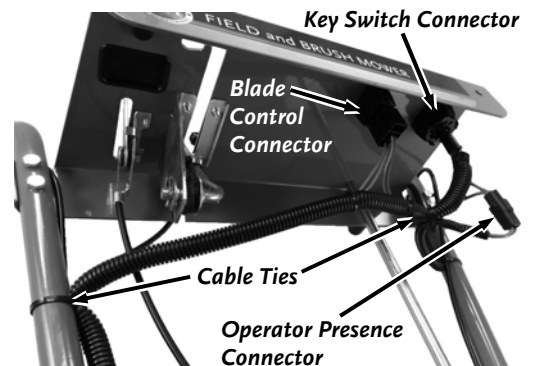

Figure 11
- Unplug the Blade Control, Key Switch and Operator Presence Connectors (**Figure 11**).
8. Plug in the Blade Control, Key Switch and Operator Presence Connectors of the new Harness (**Figure 11**).